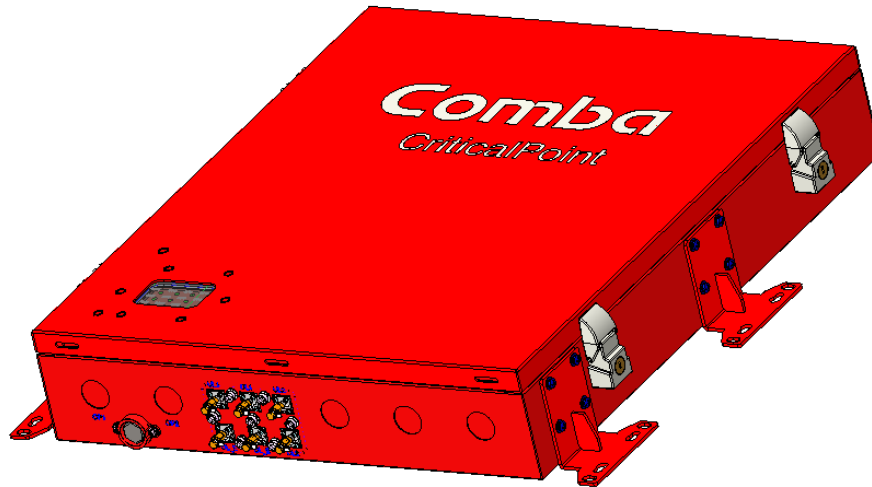

Figure 16: The mounting hangers of Expansion Unit
- Remove the two mounting hangers from the Expansion Unit, adjust the direction according to Figure 9, and install it on the Expansion Unit. At the same time, install the remaining two mounting hangers attached in packing box on the Expansion Unit, as shown in Figure 16;